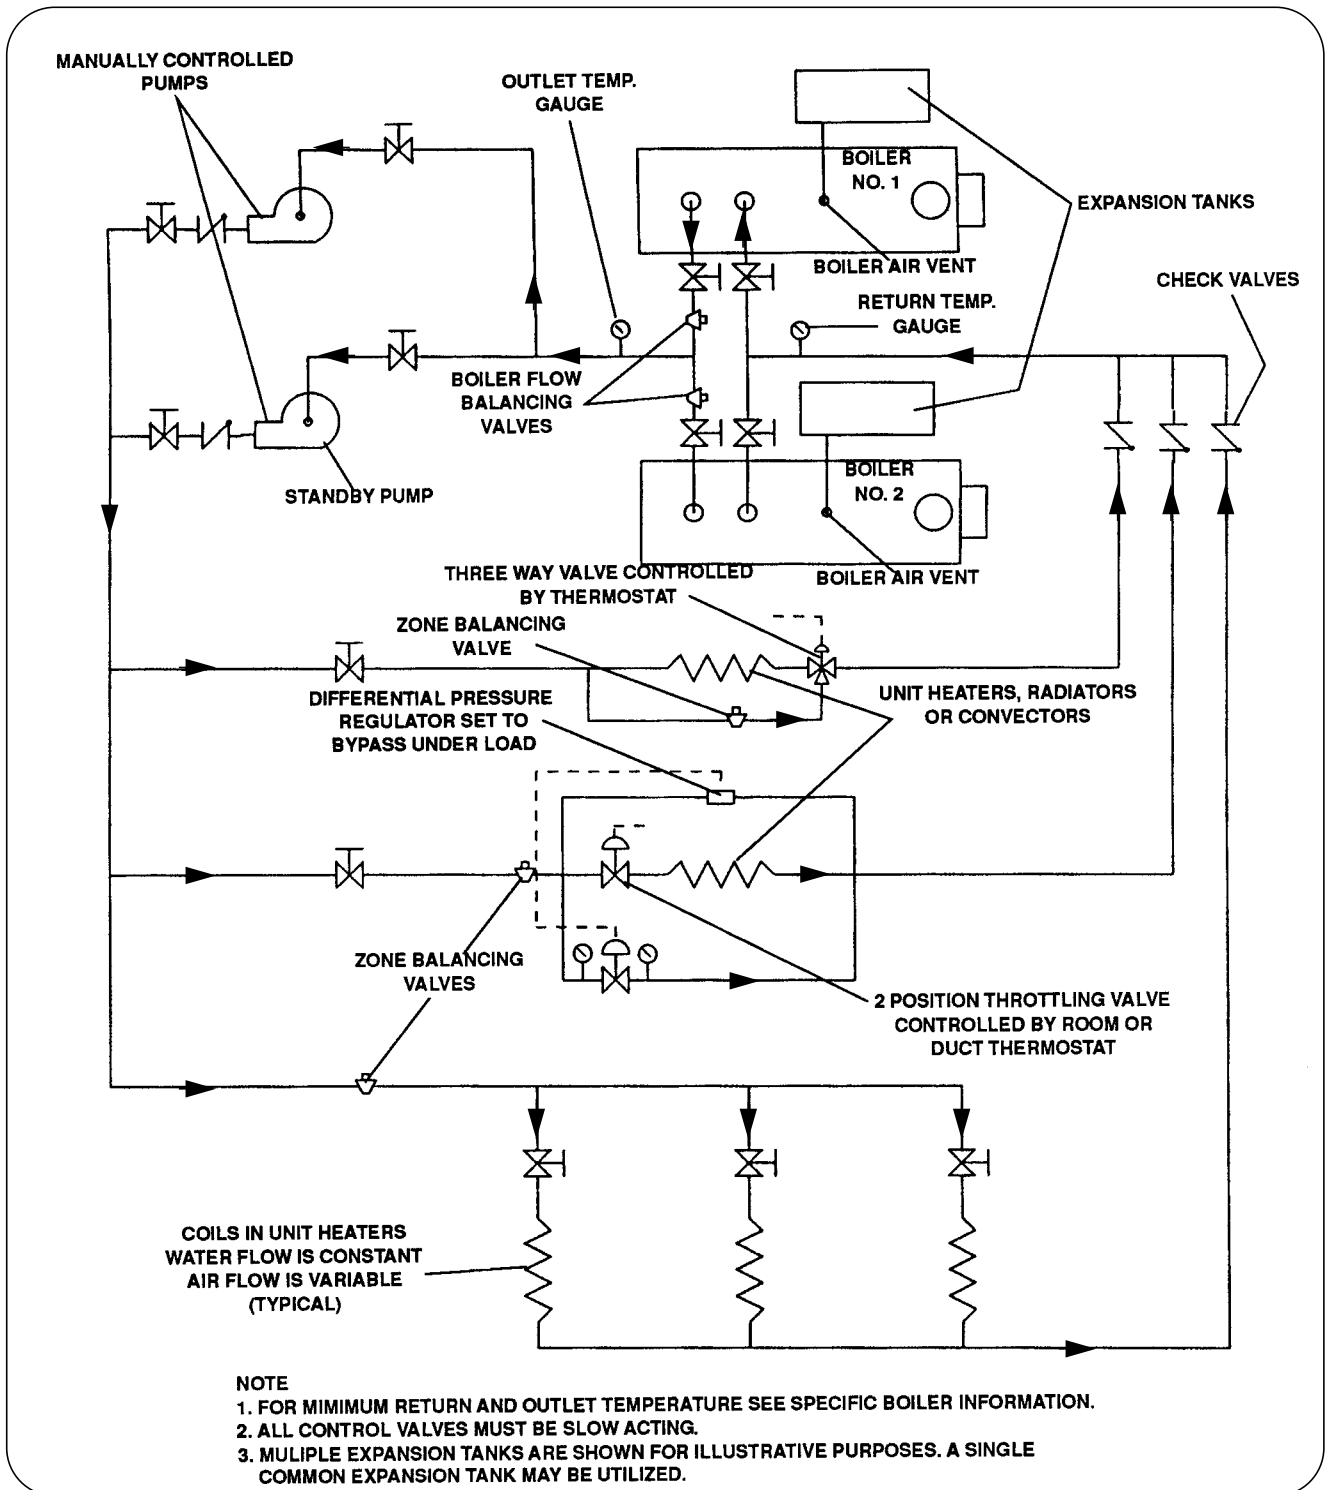
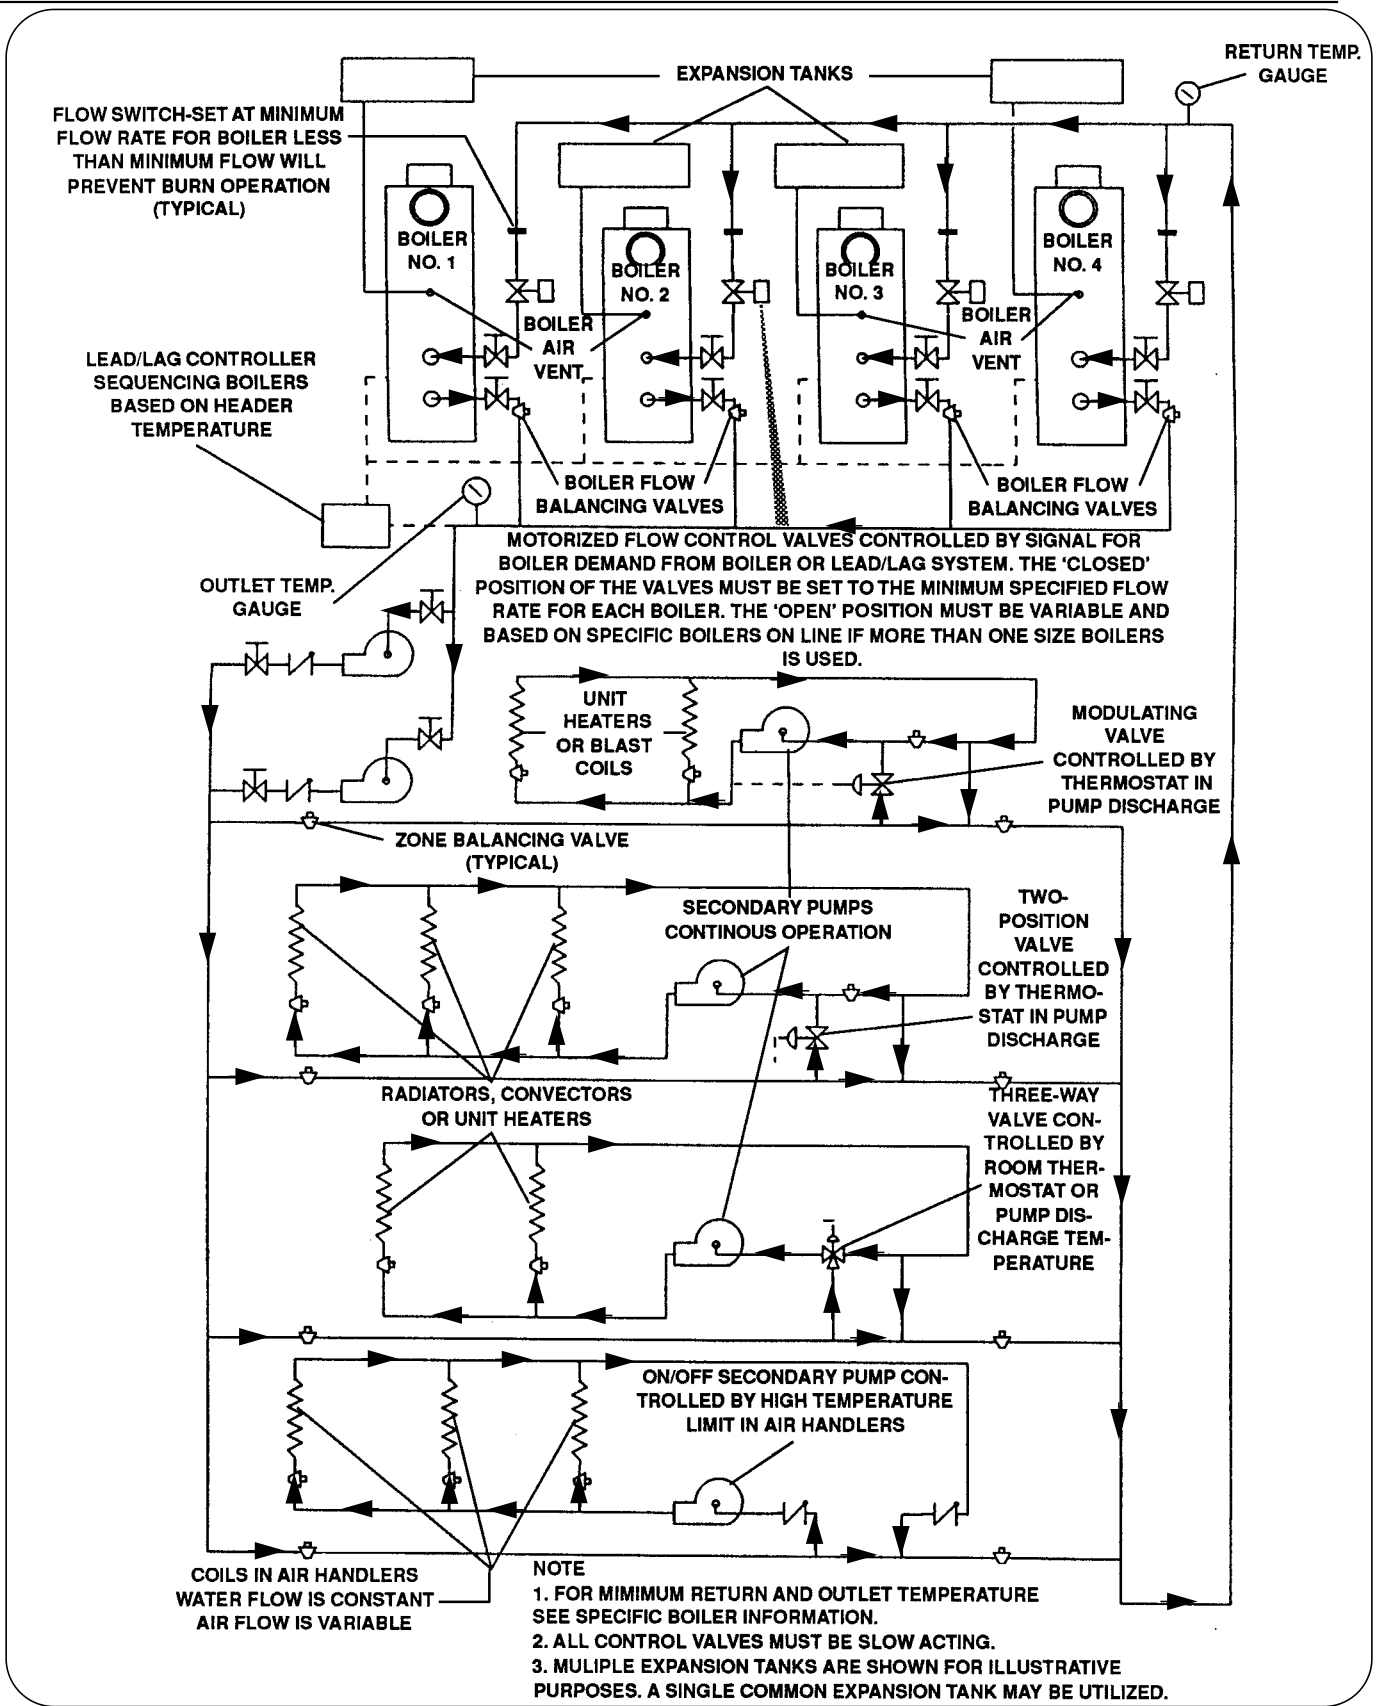

Figure 14. Primary Loop Circuit, Constant Speed Pumps
Figure 19. Multiple Boiler Lead/Lag, Primary/Secondary Pumping
- The system layouts (Figure 14 through Figure 19) are intended to be used as a general guide for use with Cleaver- Brooks products. Many system layout combinations have not been shown.